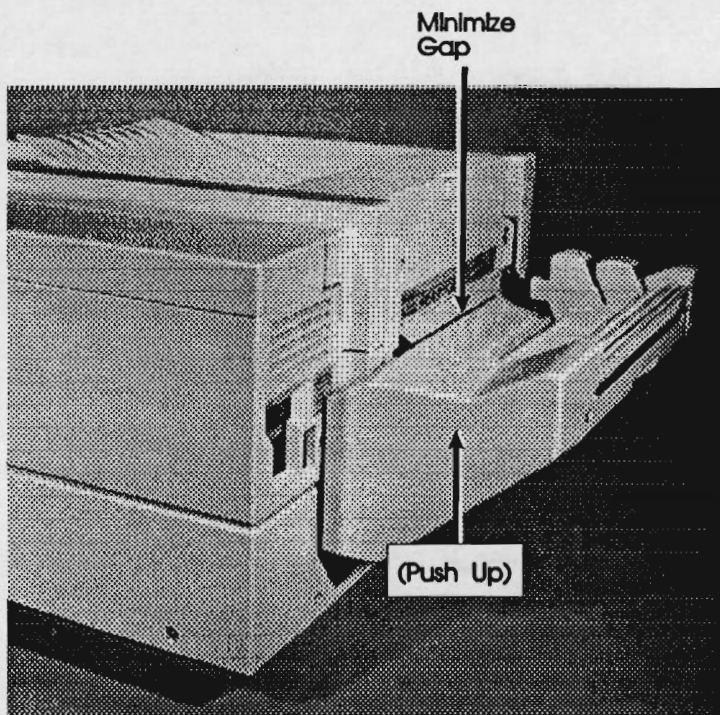

Figure 6-19. Switchback Assembly Clearance Adjustment
3. Align the Switchback Assembly as closely as possible to the top rear cover while tightening the bracket screws (see Figure 6-19).